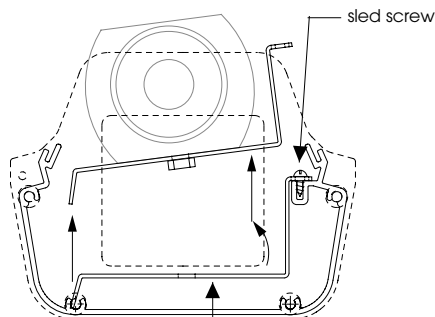

Figure 1
1. To loosen the camera sled turn the Phillips head screw, located on the inside ledge of the bottom half of the housing, 1/2 turn counterclock wise. Slide the camera sled toward the rear of the housing until screw head is aligned with the hole on the key slot of the camera sled. Lift and remove (Figure 1).